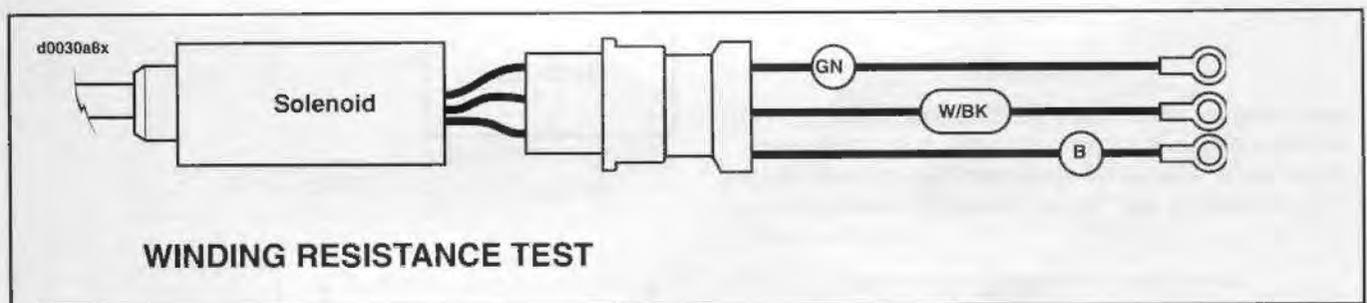

Figure 8-57. Resistance Test Hookup
1. See Figure 8-57. Connect the solenoid test harness to the solenoid as shown.